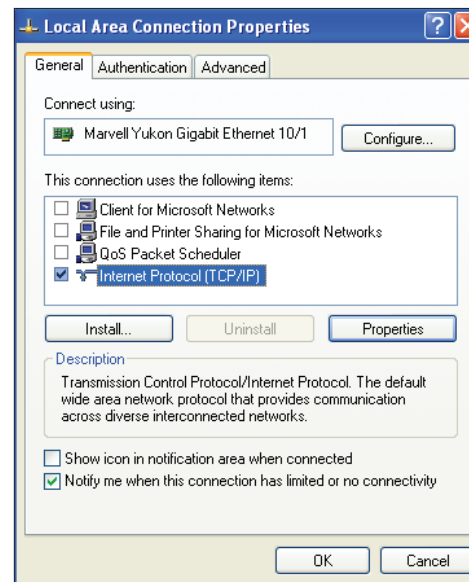

Figure 6: Local Area Connection Properties Window
- 5.) As shown in **Figure 6**, in the Connection Items list box, be sure the **Internet Protocol (TCP/IP)** is checked. *Select the Internet Protocol (TCP/IP) item to highlight it and then click <Properties>*. The *Internet Protocol Properties Window* will appear.